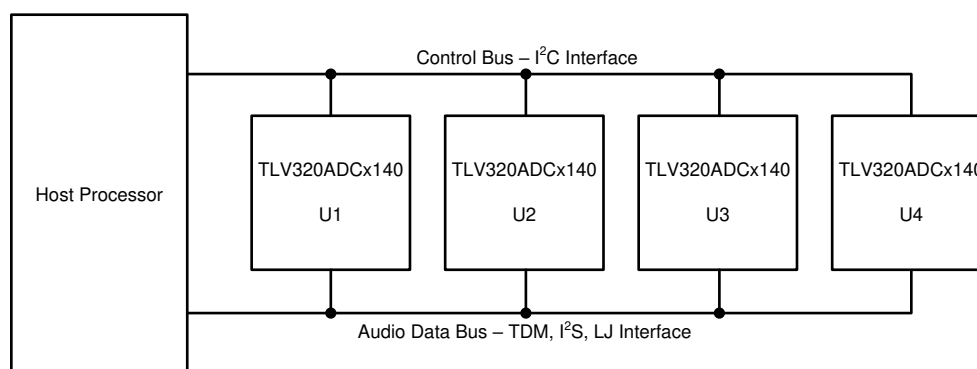

Figure 1. Four TLV320ADCx140 Devices With Shared Control and Audio Data Buses
For TLV320ADx140 applications requiring more than four channels, multiple TLV320ADCx140 devices can share a common bus. For systems with up to 16 analog input channels or up to 32 digital microphone inputs, up to four TLV320ADCx140 devices can share a single control and audio data bus to minimize board routing area. TLV320ADCx140 supports a control bus using the I²C interface and an audio serial bus using a time-division multiplexed (TDM), Inter-IC Sound (I²S), or Left-justified (LJ) interface. Figure 1 shows a diagram of four TLV320ADCx140 devices sharing the control and audio data buses.
For proper operation of the audio bus in TDM mode, the number of bit clocks per frame must be greater than or equal to the number of active output channels times the programmed word length of the output channel data, as shown in Equation 1. For the example shown in Figure 1 with four devices, each with four channels, at a 48-KHz sampling rate and 32-bit word length, $BCLK \geq 4 \times 4 \times 48\,000 \times 32 = 24.576$ MHz. Since the maximum supported BCLK is 25 MHz, the maximum number of devices is dependent on the number of channels used, sample rate, and word length that maintains a bit clock (BCLK) under 25 MHz.